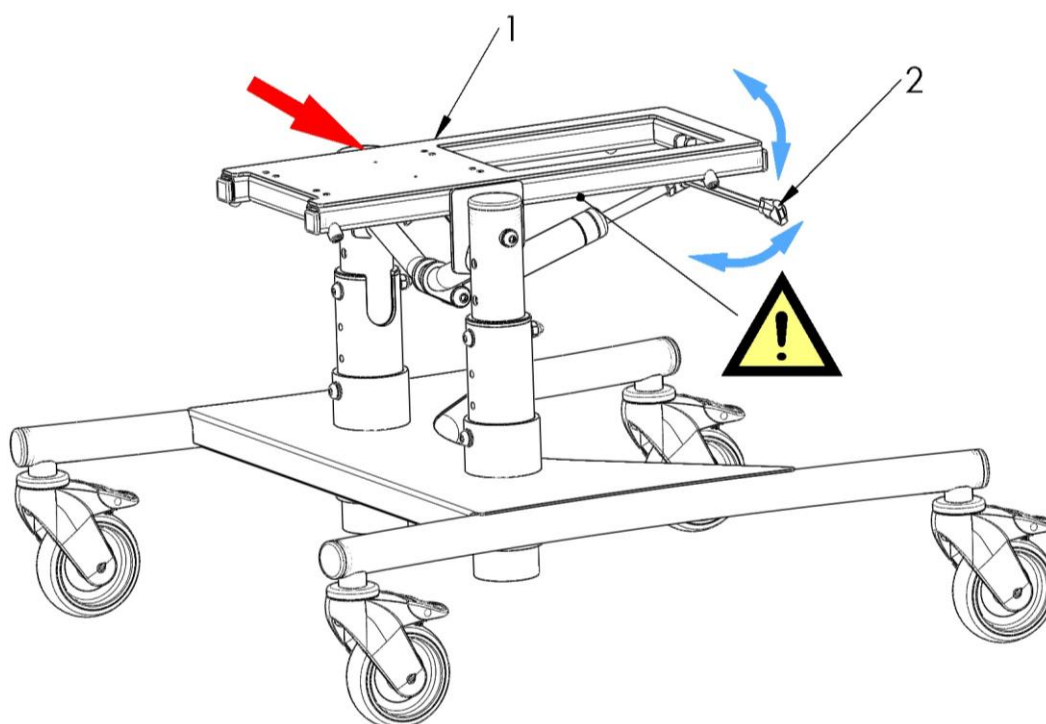

Fig. 15
Adjusting the tilt angle of the seat platform (1) is possible in the ranges -10° do $+30^{\circ}$ horizontally and is shown in Fig. 15. This adjustment is done by pulling back the gas spring lever (2) located under the seat platform. If the seat is not mounted on the seat platform (1), adjusting the angle is done by pressing on the back part of the platform. To adjust the tilt angle with the seat fitted on, hold the seat with one hand and the gas spring lever (2) with the other one. Once the required angle has been achieved, release the gas spring lever; this will lock the platform's tilt angle.